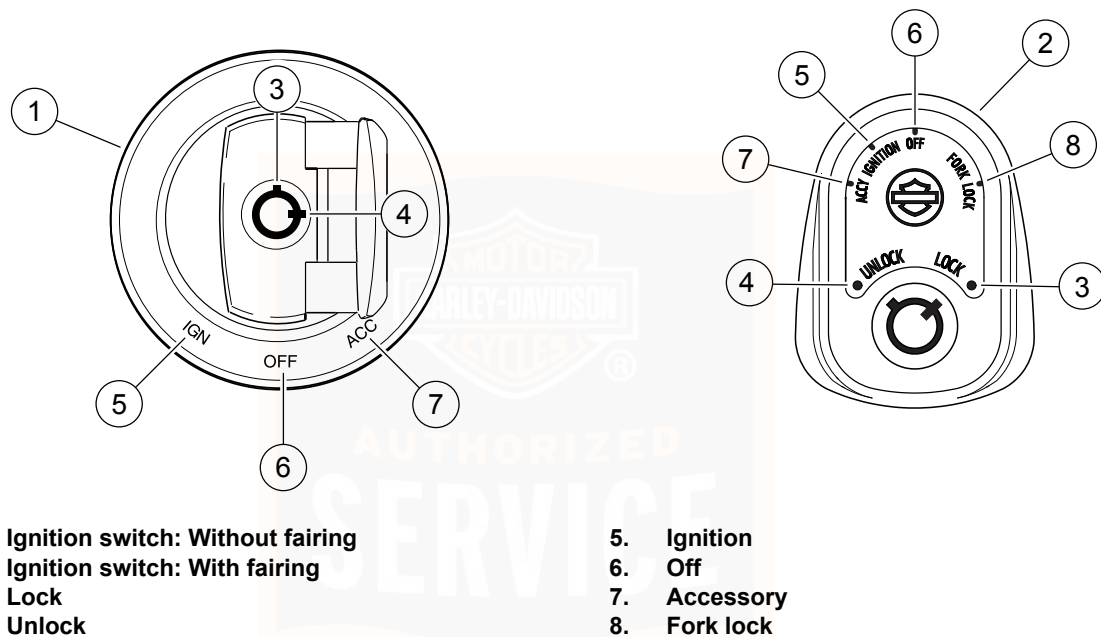

Figure 25. Ignition Switch
See Figure 25. The ignition switch controls electrical functions of the motorcycle.
With fairing: See Figure 25. The fork lock is integrated into the ignition switch.
2. See Figure 25. Turn switch knob to FORK LOCK. Push knob down.